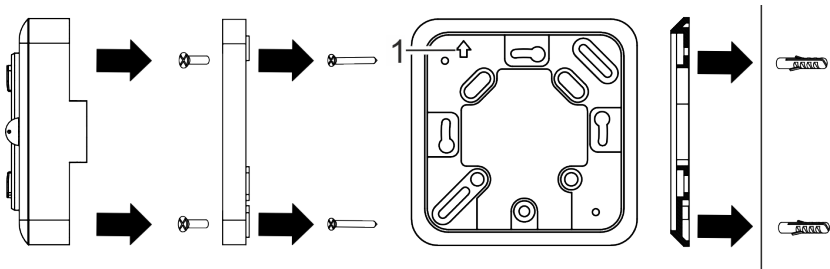

Fig. 6: Installation in a flush-mounted socket and on-wall mounting
1. Attach the mounting plate to the flush-mounted socket with screws (3.5 x 25 mm) (Fig. 6).
The arrow (Fig. 6/1) on the mounting plate should point upwards.
- Attach the housing base of the device to the mounting plate with the screws (3 x 6 mm) (Fig. 6).
4. Fasten the housing base to the wall-plugs with the screws (3.5 x 25 mm) (Fig. 6).